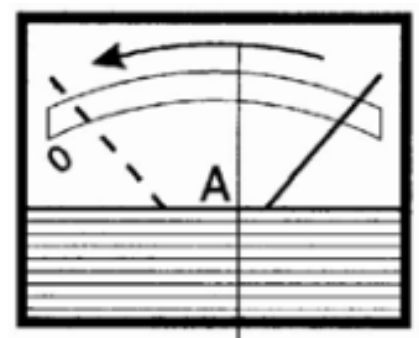

Figure 2.
1. Check the current delivery to the battery by reading the ammeter on the front of the battery charger. During charging the pointer on the ammeter will slowly move to the left according to the capacity and condition of the battery (see **Figure 2**).